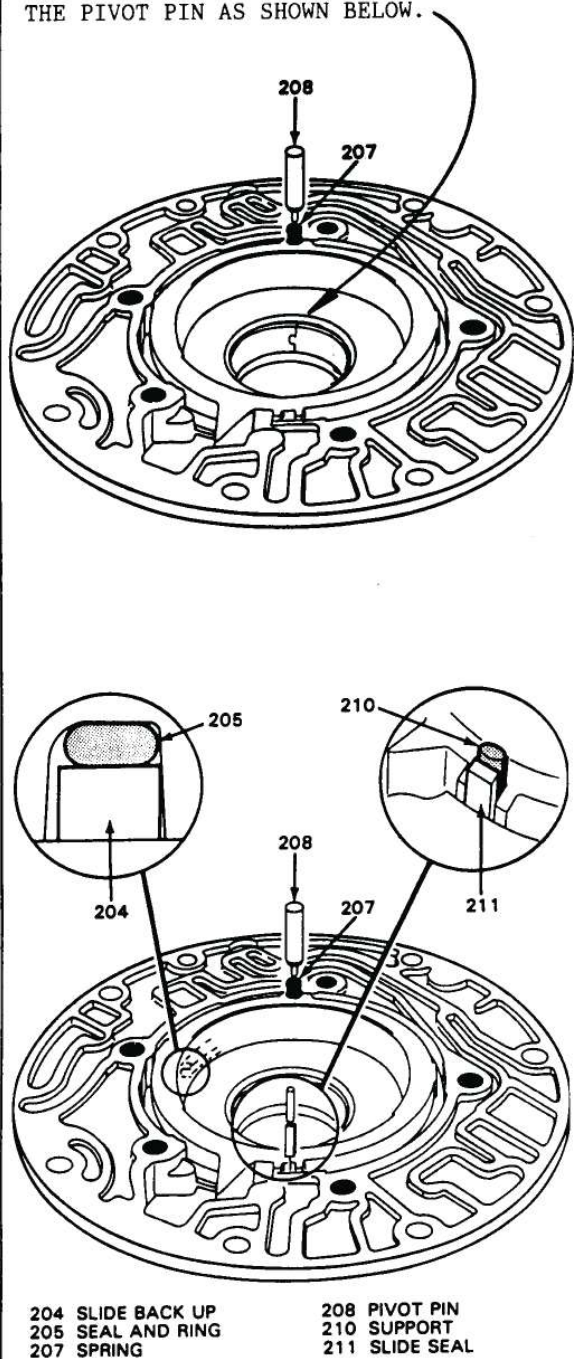

Figure 169
- WHEN REPLACING THE FRONT PUMP BUSHING ORIENT THE SEAM OF THE NEW BUSHING SO IT IS POINTED AT THE BOLT HOLE NEXT TO THE PIVOT PIN AS SHOWN IN FIGURE 169.
3. Install "O" ring back-up and oil seal ring into the groove on the back side of the pump slide (See Figure 169).
4. Install slide seal support and the Teflon slide seal onto pump slide and retain with Trans-Jel (See Figure 169).
7. Pull the pump slide straight towards the slide seal with one hand, and with the other hand install the pivot pin and spring (See Figure 169).